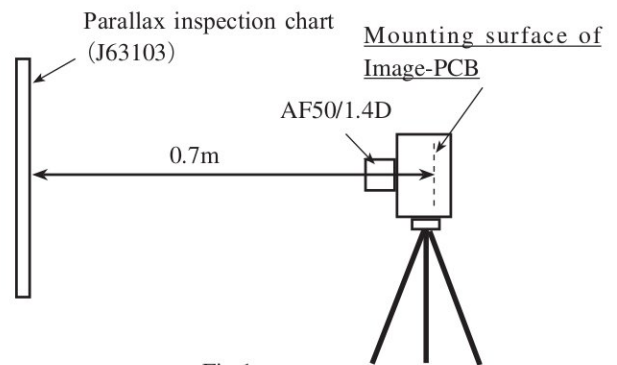

Fig.1
- ① Insert the battery into the camera, and set the exposure mode to "P".
- ② Turn the power SW to OFF, and remove the battery. (By this procedure, the camera memorizes the latest set mode in the camera.)
- ③ Remove the four FPCs and two wires of the top cover, then detach the top cover from the camera.
- ④ Attach the parallax/SI chart (J63103) on the wall, etc.
- ⑤ Put the CF card and battery into the camera, and mount the lens AF 50/1.4.
- ⑥ Position the camera correctly 70 cm-distance from the parallax-inspection chart by using the tripod, etc. (ref. Fig. 1.) (Set the optical axis of lens to come in the center of the chart.)